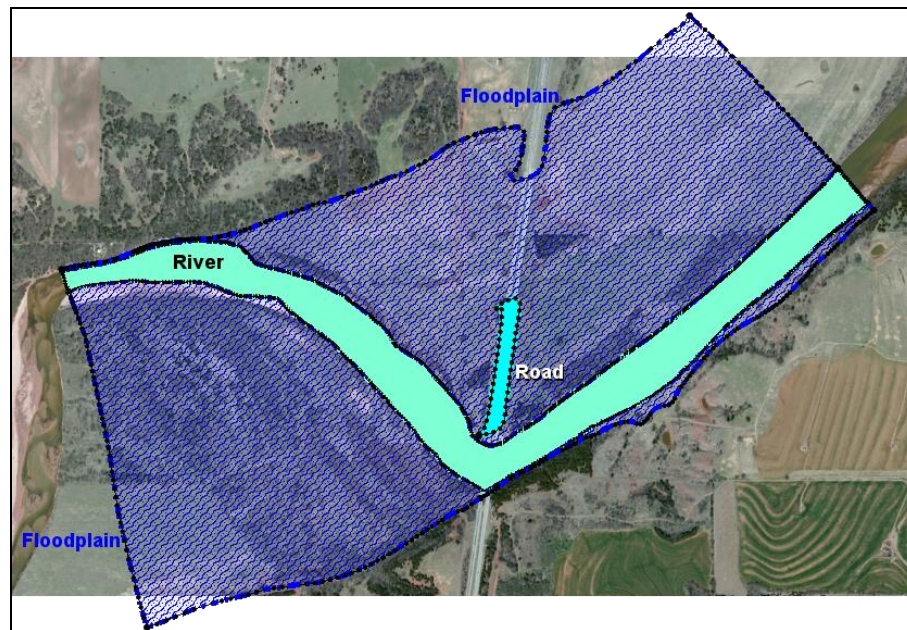

Figure 6 Material types of the four polygons
3. Select the appropriate material type for that zone, as shown in Figure 6 below.